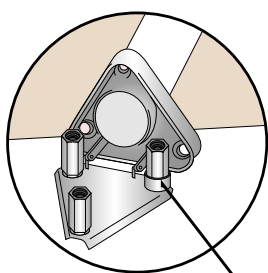

Fig 7, Locking Ring
8. Assemble the flagstaff onto the lugs, place the locking ring back over the long nut next to the hinging lug. (See Fig 7)